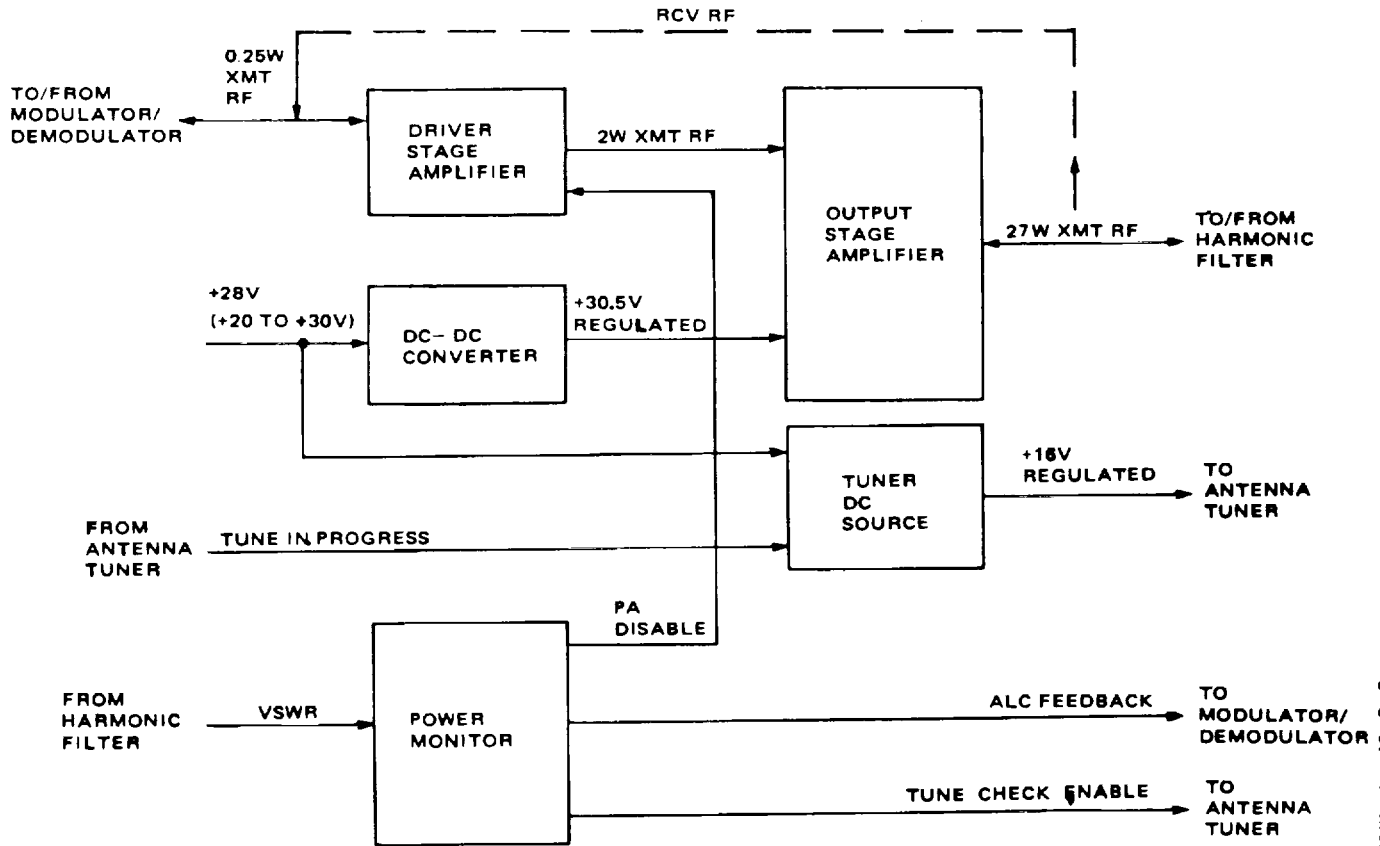

Figure 3-7. Power Amplifier Block Diagram
**3-35 POWER AMPLIFIER (Figure 3-7)** The power amplifier boosts the 0.30-watt output from the modulator/demodulator to provide 20-watt (normal) rf power at the antenna. The Xmt RF is preamplified to 2 watts in the output stage. It is then amplified to about 27 watts in the output stage. (About 7 watts is lost in the filter and antenna tuner.) The DC-DC converter provides the +30.5v Regulated voltage for the output stage. The tuner dc source generates +16v Regulated for use by the antenna tuner during impedance matching. This is triggered by the Tune In Progress signal from the antenna tuner. The tuner dc source compensates for changes in battery voltage and temperature. The power monitor circuits use the vswr signal from the harmonic filter to protect the power amplifier. If the antenna is badly matched to the radio set power reflects back at the power reflects back at the power amplifier. This could cause damage. When a poor match occurs, the power monitor disables the driver tuning (Tune Check Enable) and sends ALC Feedback signal to the modulator/demodulator. The ALC controls the rf power output level of the receiver/exciter in transmit operation.